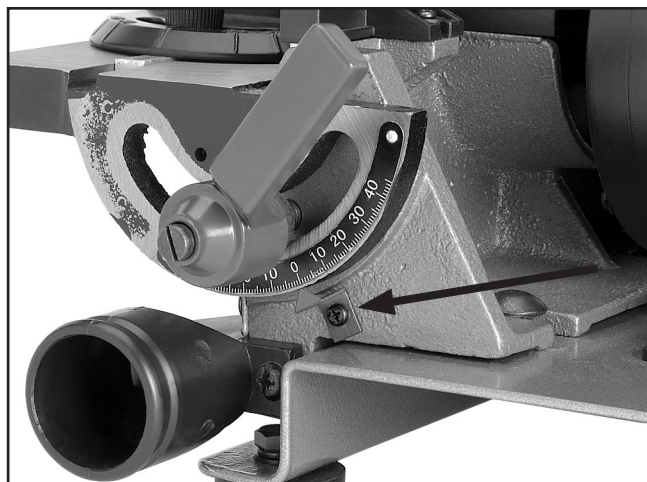

Figure 18. Sanding disc table angle scale pointer installed.
19. Using the M4-7 x 10 Phillips head screw, align the red scale pointer with the "0" mark on the table angle scale (see **Figure 18**).